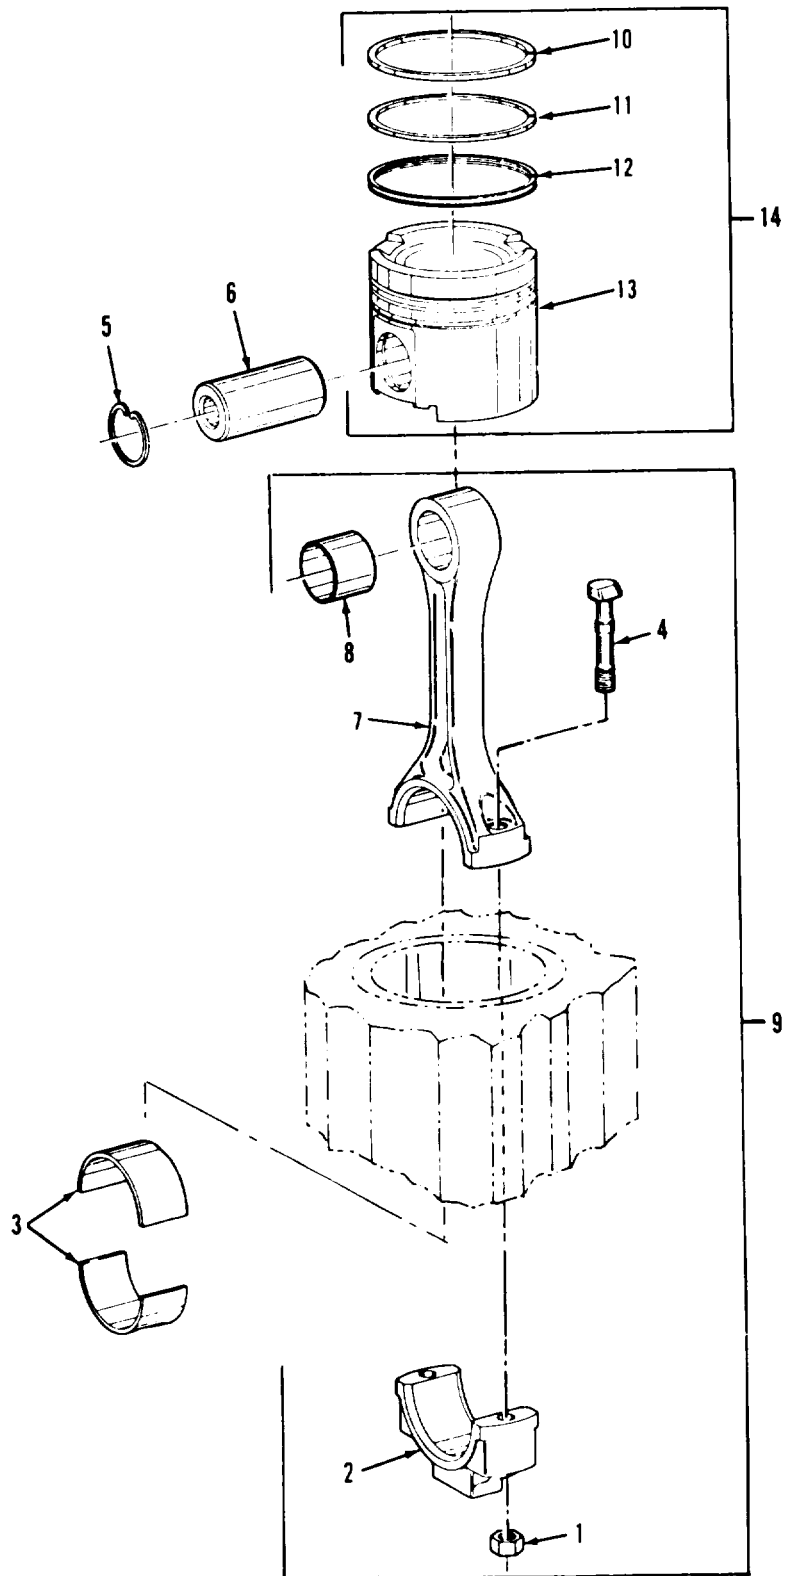

Figure 8-62. Connecting rods and pistons group, exploded view
Refer to figure 8-62 and disassemble connecting rods and pistons group in the order of index numbers assigned. Pay particular attention to the following:
Bent rods should be discarded. DO not attempt to align rods by bending. Abrasive materials may roll around between bearings (8) and crankshaft journals causing scratches in the bearing without actually becoming embedded in the aluminum. Such scratches are not necessarily harmful and do not indicate that bearings (8, figure 8-62) should be replaced.
e. To measure clearance and gap for each piston ring (10, 11, and 12), insert a piston (13) in cylinder bore in the inverted position. Insert each piston ring, one at a time, about two inches down in the cylinder bore and bring the bottom edge of the piston (13) up against the ring to square the ring in the cylinder bore. Check gap with a feeler gauge. If gap clearance for any ring is not as specified in table 1-1, the ring must be filed or honed to specification, or replaced.
Refer to figure 8-62 and reassemble connecting rods and pistons group in the reverse order of index numbers assigned. Pay particular attention to the following:
Legend to figure 8-62:
d. Compress piston rings (10, 11, and 12) with a suitable ring compressor tool and install piston (13) so that the "V" mark on top of the piston lines up to the "V" mark on top of the block.
e. When assembling lower bearing cap (2) to connecting rod (7), make sure that protruding tab on back of each bearing half (3) lines up with corresponding recess in connecting rod (7) and bearing cap (2).
f. Guide lower end of each connecting rod (7) over crankshaft journal so as not to damage crankshaft bearing surface.
2. Install lower bearing caps (2, figure 8-62) and tighten bolts, (4) and nuts (1) from 27 to 33 foot-pounds torque.
3. Remove caps (2) and bearings one at a time and measure thickness of plastic strips. The measurement represents the bearing clearance. If the maximum clearance exceeds 0.010 inch, replace connecting rod bearings. It would be advisable to replace all rod bearings (3) at this time.